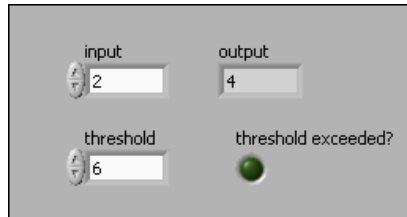

Figure 9. Changing the Labels
2. Rename the controls by double-clicking the labels and entering new names as shown in Figure 9.